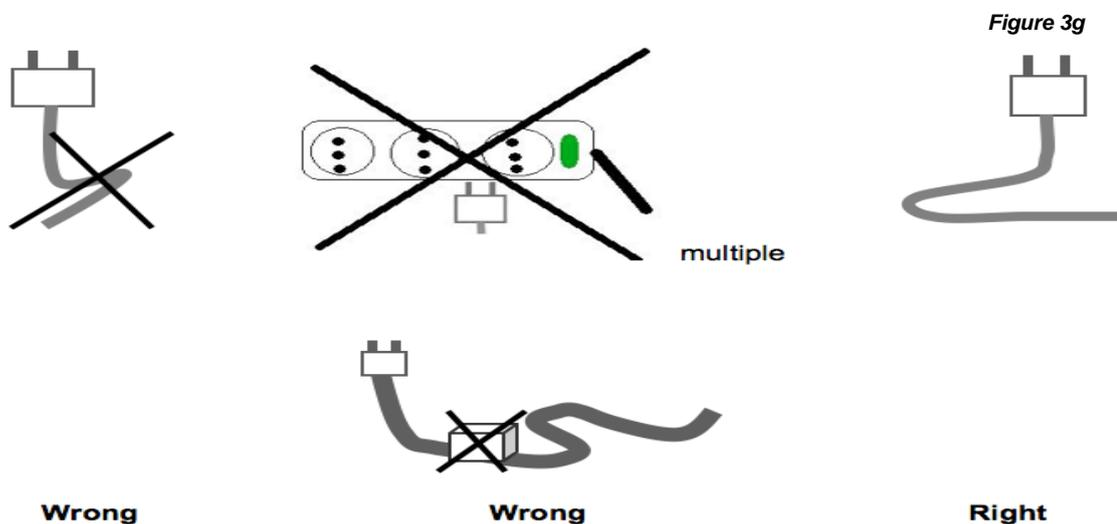

Figure 3g
- ❖ Please be sure to verify that the connection power is aligned with the specifications in the nameplate at the back of the sterilizer. **(Figure 3g)**